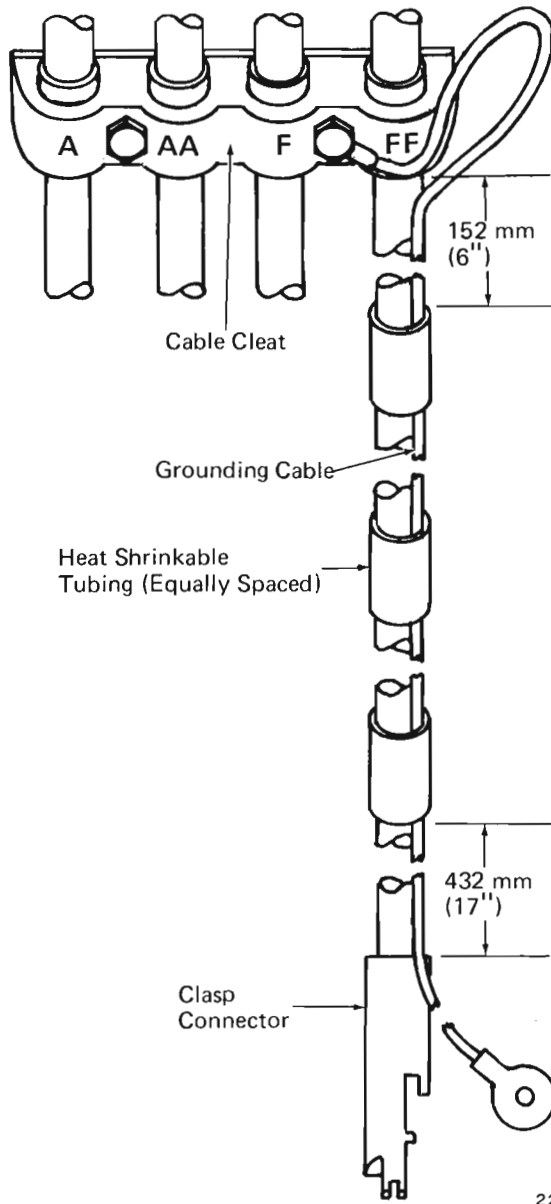

Fig. 1 - External Lead Grounding Cable Application
1. If the motor does not have a grounding cable, Fig. 1, install cable as follows. Refer to Service Data for grounding cable and heat shrinkable tubing part numbers.
- a. Attach grounding cable as shown in Fig. 1.
- c. Position three sections of heat shrinkable tubing as shown in Fig. 1.